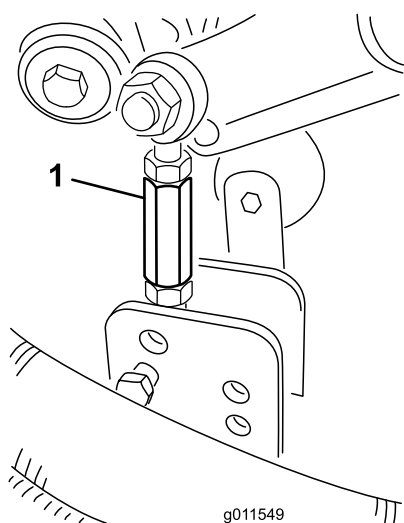

Figure 30
9. Remove the hairpin cotters and clevis pins securing the damper links to the mower-deck brackets (Figure 30).